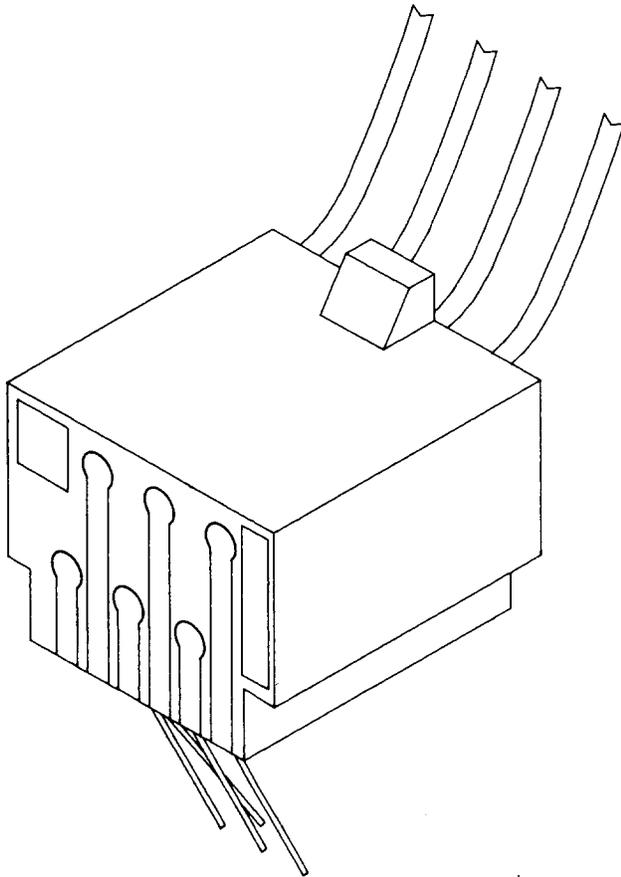

Fig. 13—645-Type Jack
- 2.13 645-Type:** The 645-type jacks (Fig. 13) have a 4-conductor spring block assembly for use with the modular telephone jacks and/or connector blocks. The 645-type jacks have tops with contact springs and leads which snap into separately supplied jacks or blocks. The mating bodies may be a part of telephone sets or connecting blocks and could be molded integrally with a base chassis housing, etc. The tops are designed to snap into place for easy assembly. The unique features of the various types are described as follows: